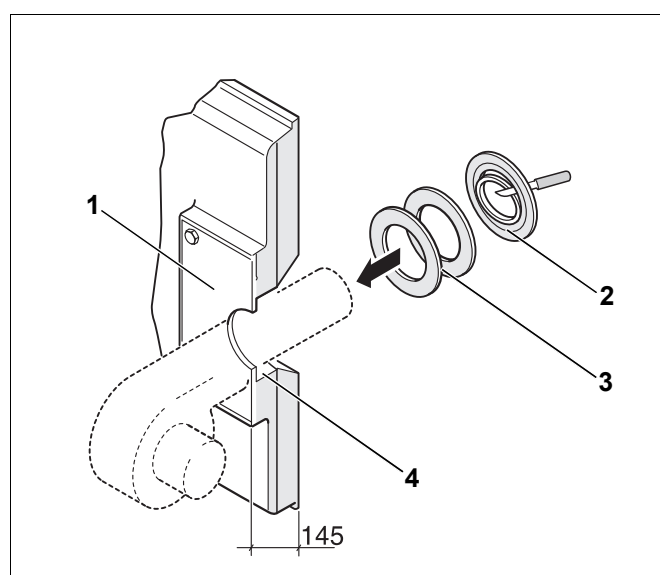

Fig. 66 Install the burner (dimensions in mm)
- Cut the steel insert plate (Fig. 66, [1]) on site using oxy-acetylene or a drill according to the required blast tube diameter (Ø max. 270 mm). Drill the burner mounting holes according to the hole pattern of the burner connection flange.
- Cut out insulating rings according to the burner pipe diameter (Fig. 66, [2]).
- Fill the remaining gap between the thermal insulation on the burner door and the blast tube (Fig. 66, [4]) with suitably adapted insulating rings (Fig. 66, [3]).